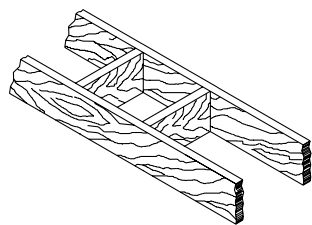

Figure 27
1. Cut and frame the holes in the ceiling, floor and roof where the chimney will pass (see **Figure 27**). Use a plumb-bob to line up the center of the holes. The sizes are indicated in **Table 2** for the floor and ceiling holes and **Table 3** (**Page 21**) for the roof holes.